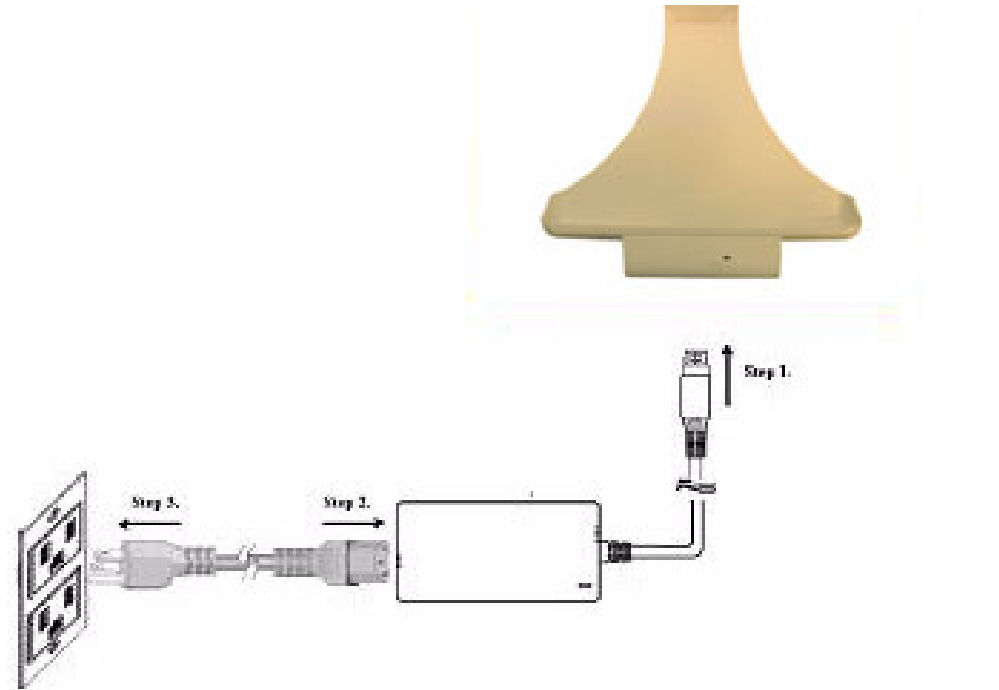

Figure 2.13 Connecting the AC Adapter Power Supplier to the MICA Cradle
1. Connect the end of the AC Adapter cord to the DC Power inlet of the CRADLE (See Figure 2.13).